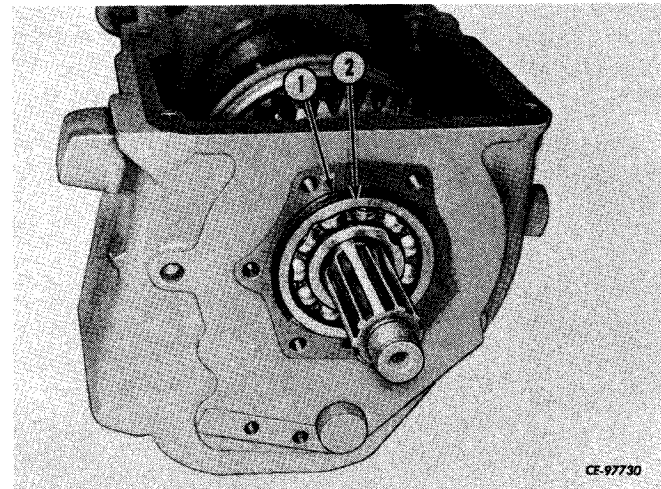

Figure 4-32
Remove snap ring (1, Fig. 4-32) and using a suitable puller remove bearing (2) from housing.